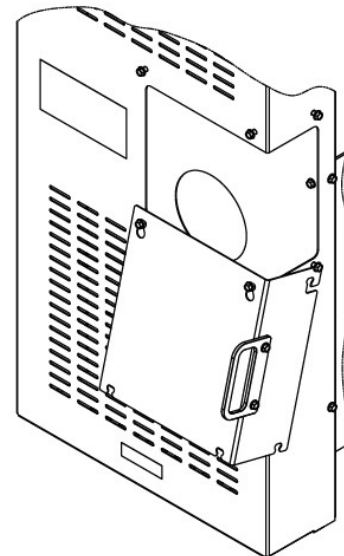

Figure 27 - Storing Inspection Cover
2. Slide the inspection cover up to align the larger holes in the slots with the screw heads and then slide the inspection cover away from the front cover. To temporarily store the inspection cover, hang the inspection cover on the lower screws. Refer to Figure 27.